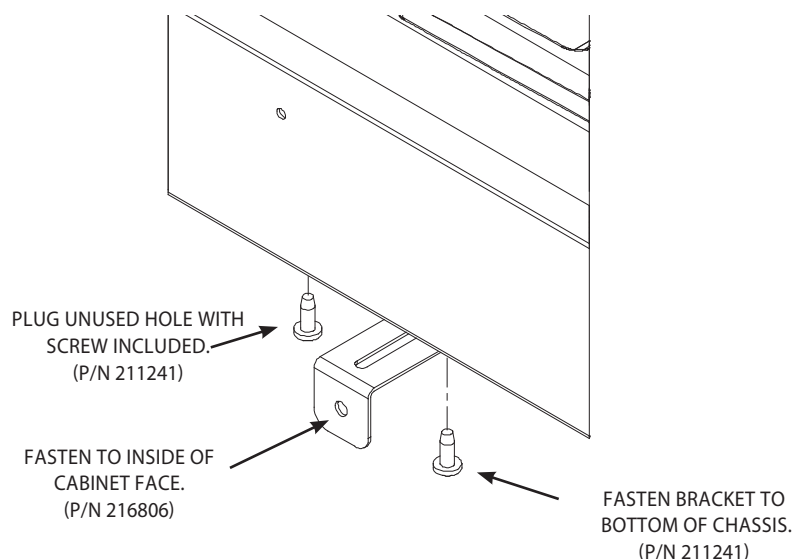

FIG. 3
*Some installations may not have adequate clearance at the front for the 'Z'-shaped retaining bracket. In those cases, use the 'L'-bracket provided. Fasten the bracket to the bottom of the cooktop chassis using one of the screw holes provided for the retaining brackets. Make sure the bracket extends out far enough to contact the inside of the cabinet face. While pushing down on the front edge of the cooktop from above, attach the bracket to the cabinet. This step will insure that the edge of the cooktop is flush with the counter surface. Plug the adjacent unused hole in the cooktop chassis with a screw. See Figure 3.*